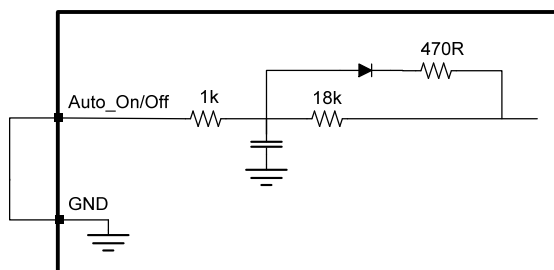

Figure 15: Normal On/Off application
- On/Off by mains switch: If the board should power up when mains voltage is present, the Auto_On/Off pin should be connected to GND as shown in figure 15 to disable the Signal Sense feature.